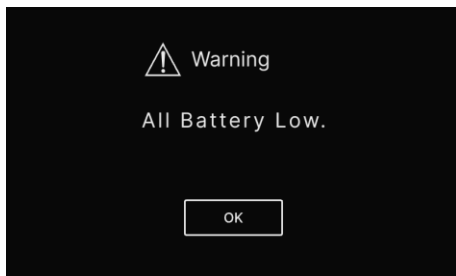

Figure 5.2-11 Battery Warning
- ☐ **Bat Only:** only display the battery indicator, and the illustrations are different according to the battery level as shown in the table below. When the battery capacity is running out, it will pop up a warning as shown in Figure 5.2-11, please replace the battery in time, and click **OK** to close this prompt. And it will display an DC/USB-PD indicator when powered by DC/USB-PD power input.